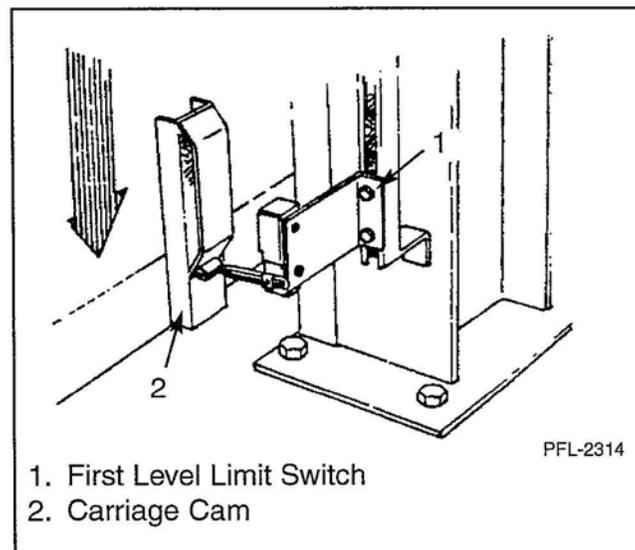

Figure 36
45. Install first level limit switch assembly as illustrated. See Figure 36.